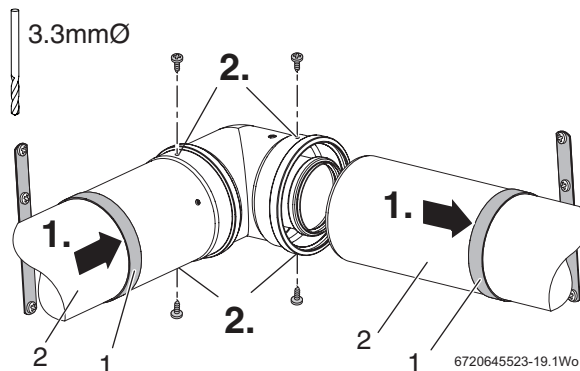

Fig. 25 Extensions employing elbows
▶ Referring to figure 25 and 26 slide the support clamps (1) onto the additional flue extensions (2).
1. Working from the boiler, fit the support clamps (1), to take the weight of the flue elbows and extensions (2).
2. Drill two holes with the jobber's drill bit provided (180° apart if possible) through the outer flue tube (L) on each flue joint, taking care NOT to drill the inner flue tube, and secure with screws provided.